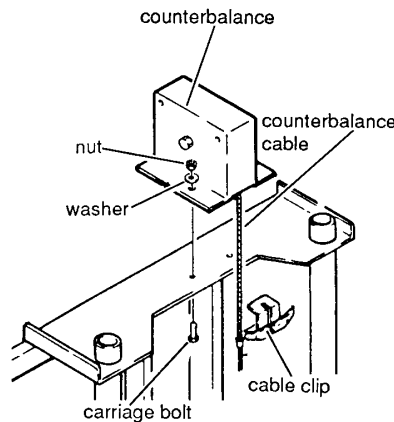

Figure 3: Installing the Counterbalance
1. Pull the end of the cable from the inside of the counterbalance. Set the counterbalance on top of the tool frame, slightly off-center to either the left or right, so that the cable is aligned vertically with an oval hole near the top of the carriage. See Figure 3. Some model tools have two oval holes in the carriage, one off-center each way; other models have only a single hole. **(Do not mount the counter balance in the center holes)**